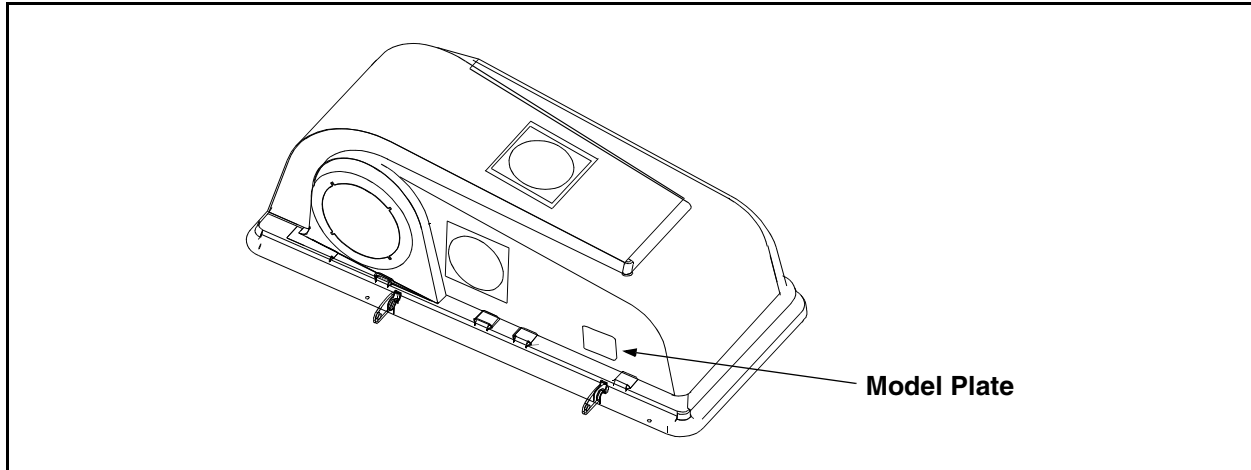

Figure 1
- You can locate the model number by looking front, left portion of the plastic grass catcher cover. See Figure 1.